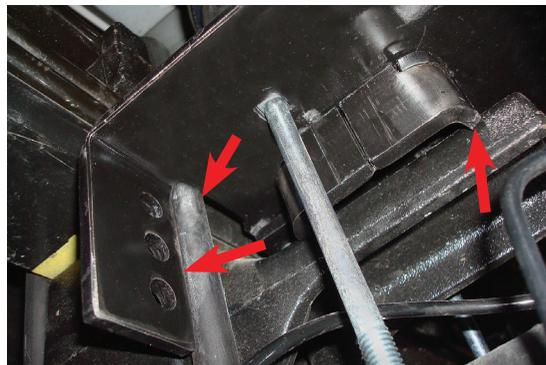

fig. D.15
1. With the vehicle supported by jack stands, drop the axle or raise the body so that the assemblies can be put into position in between the axle and frame. Set the driver's side (left) and passenger's side (right) assemblies into position so that the lower bracket cup rests on the jounce bumper strike plate. Push the lower bracket so that it is flush against the leaf spring stack. The flanges on the lower bracket main plate should lock on the sides of the U-bolt (Fig. D.15).